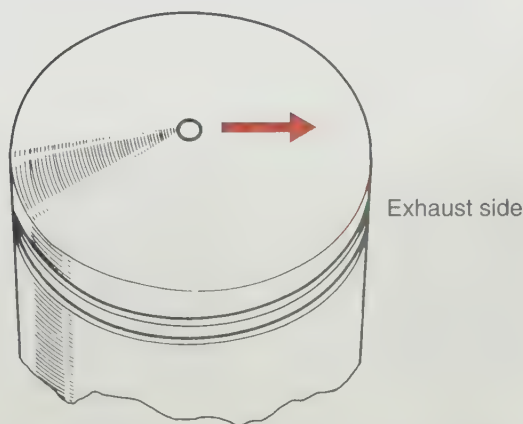

Figure 19-43. An arrow usually stamped into the piston crown indicates installation direction. (Suzuki Motor Corp.)
3. Face the piston in the proper direction, **Figure 19-43**.